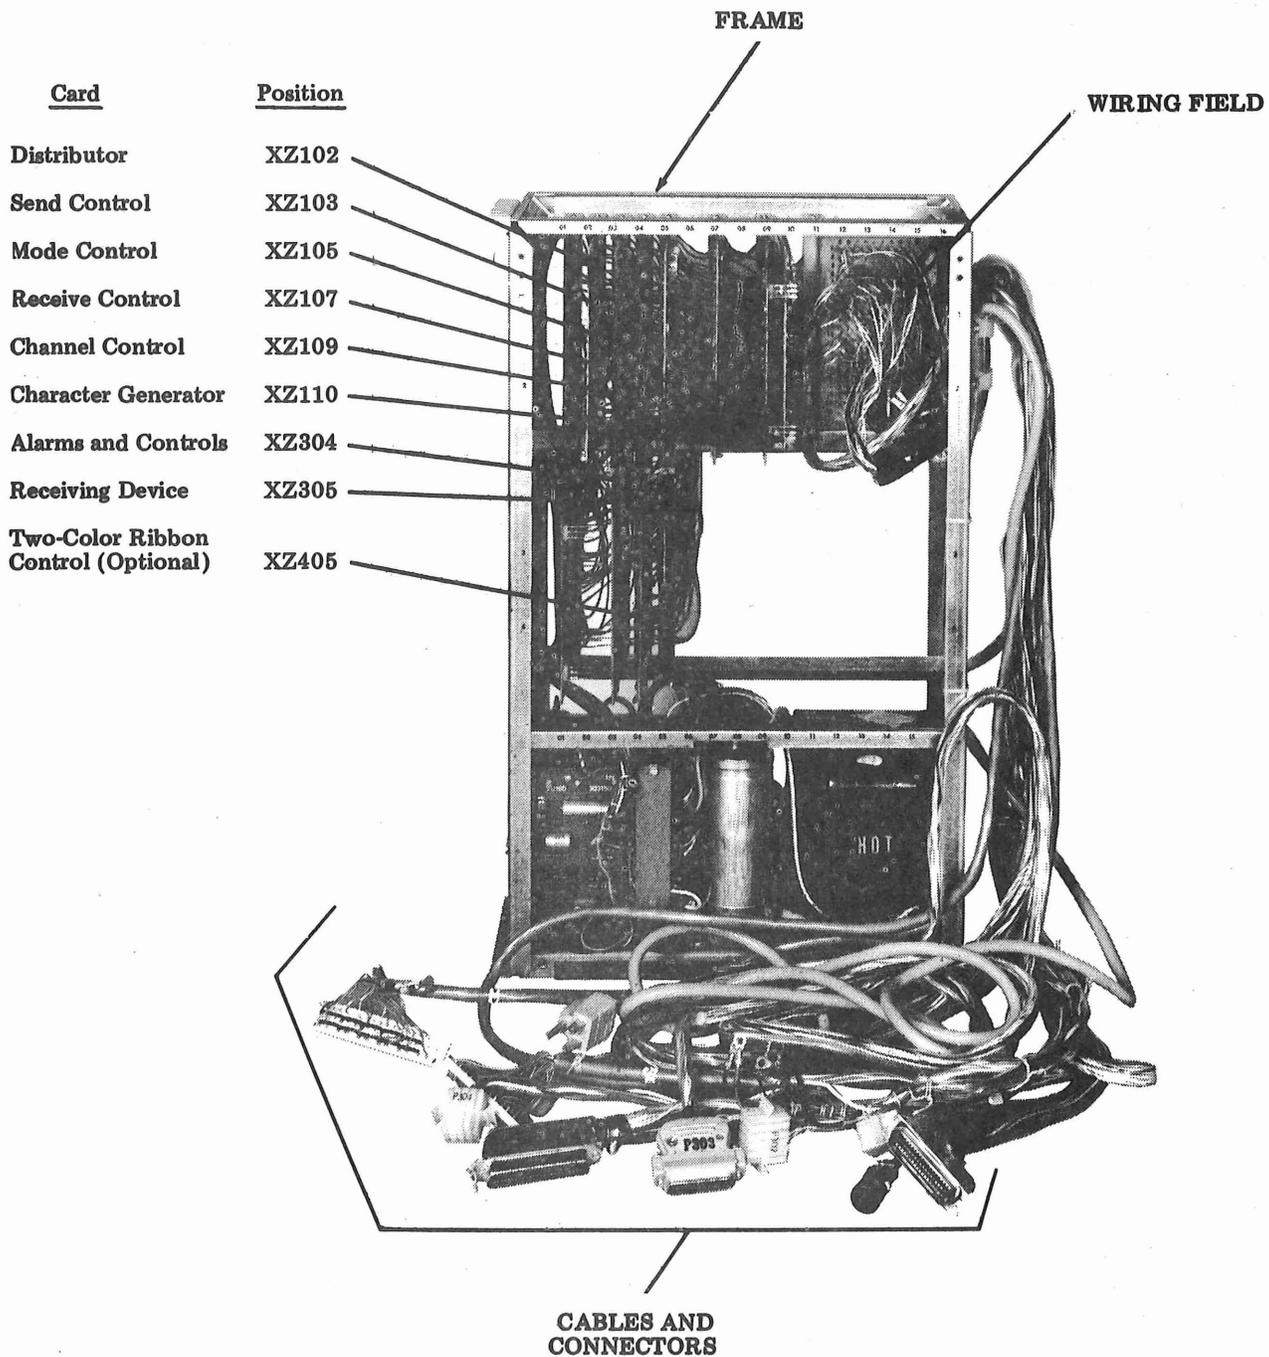

Figure 2 - 37 TTY RO Electrical Service Unit
2.05 Verify that the proper circuit cards (Table A) are installed into the electrical service unit (Figure 2) and that the proper options are enabled. Required options for the installation should be specified on the service order and/or work sheet and marked on the wiring plan included with the station. The available features and options are shown in Table B.